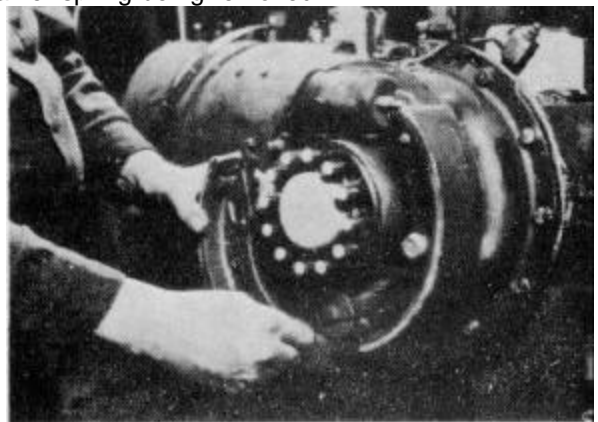

Figure 5-16
3. Drop and pull the rear brake shoe forward releasing tension on the bottom retainer spring. Remove the retainer spring from both shoes. Fig. 5-16 shows retainer spring being removed.